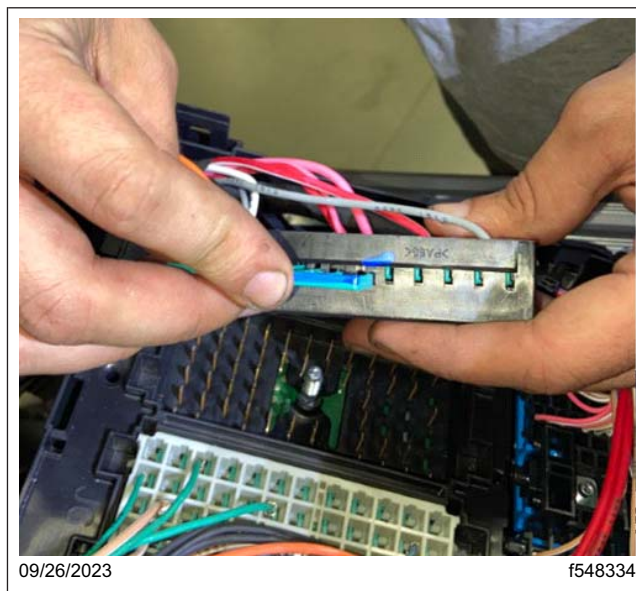

Fig. 57, Removing the Lock from the VPDM J7 Connector
- 25.4 Remove the locks from the VPDM J4 connector, as shown in Fig. 57.